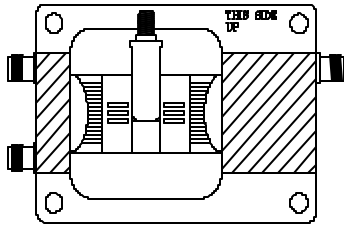
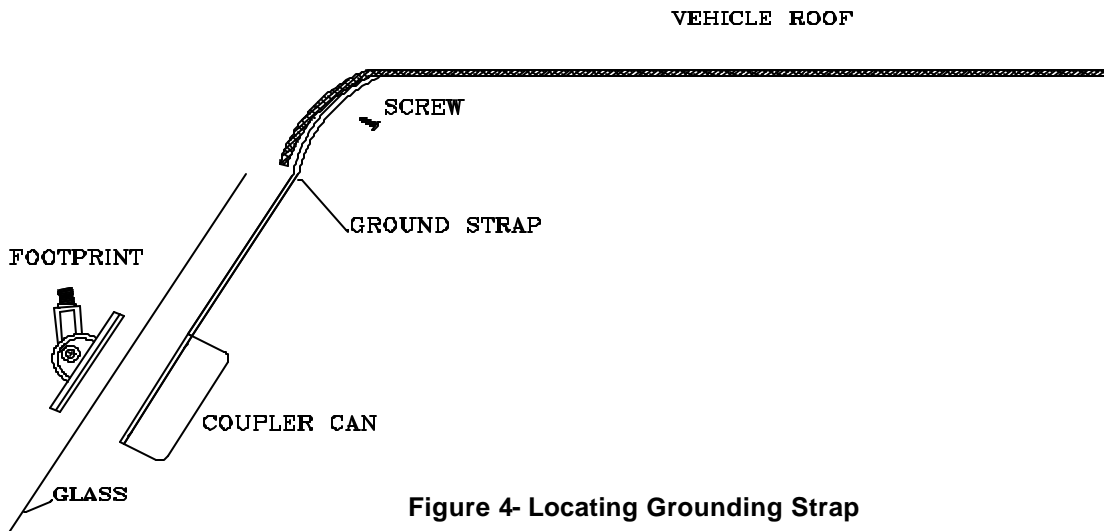

Figure 2- Template & Foot
Figure 4- Locating Grounding Strap
NOTE: Clean glass with the alcohol pad and adhere coupling box. Clean the outside of the window with the same alcohol pad, remove the adhesive backing on foot and place over the left side of the coupling can (Refer to Figure 2- (Template & Foot). If installing the antenna in below 60° F. The glass, tape and coupler should be kept warm 30 minutes prior to installation. A curing time of one hour above 60° F is recommended to achieve maximum bond between adhesive tapes and glass. StI-co recommends using a hair dryer or heat gun to warm tape prior to placement of outside foot print.
- Foot Placement:** Place the template on the outside of window in such a manner, that if there are either defogger or AM/FM wires located in the glass, they do not fall in the cross hatched area. Be sure to place the template as high on the windshield as high as possible to insure that the grounding strap is long enough to be attached in the manner prescribed in figure 4. Attach the template to the window with scotch tape. Remove the protective backing on the antenna foot and place the foot thru the hole on the template as shown in figure 2.
Determine the location where you can pre-drill the grounding strap before screwing into the vehicle roof. Trim back the rubber insulation to expose the predrilled hole Refer to Figure 4-locating Ground Strap. Attach grounding strap using 3/8 x #6 sheet metal screw provided